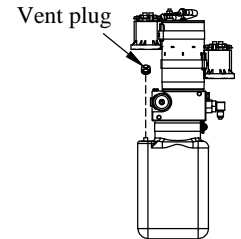

Figure 2: Vent plug.
4. **Unscrew** the solid plastic plug from the pump reservoir and **install** the vent plug provided, if not already installed (Figure 2).